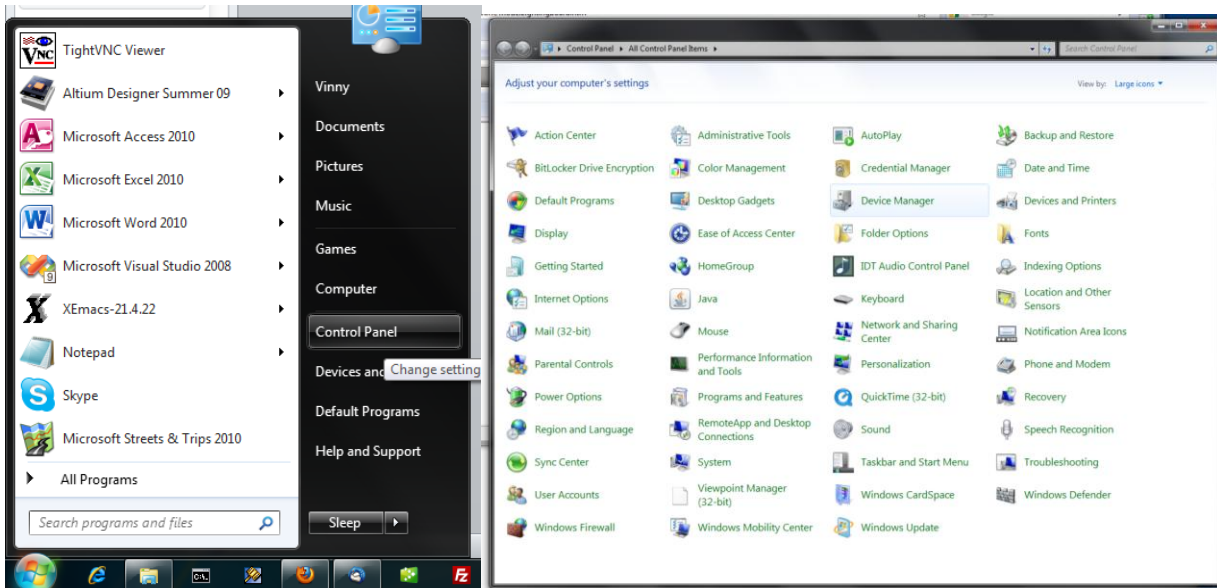

Figure 1: Control Panel
4. Go to the start menu and select control panel as shown in Figure 1. The control panel will open.